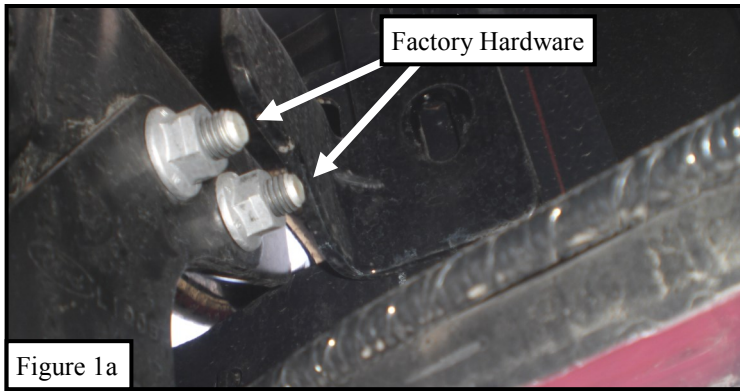
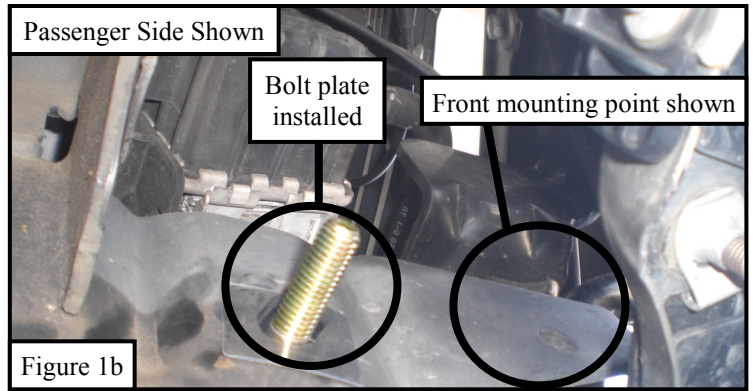

Figure 1a
Figure 1b
- Starting underneath the front of the vehicle. Determine if your vehicle is equipped with factory frame horns, if so the factory hardware will be used to install the mounting brackets ( **Figure 1a**), if not equipped attach by locating the factory slot and hole on the outside of the drivers side frame. Insert (1) M12 stud plate into the slot in the frame and thread (1) plastic retainer onto the stud plate to keep it from falling into the frame ( **Figure 1b**).